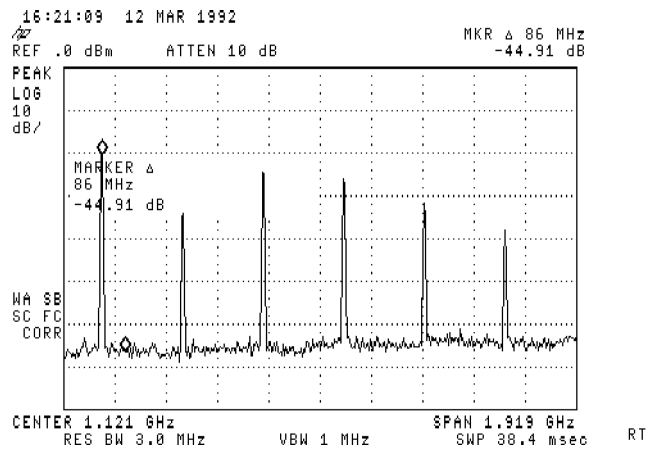

Figure 6-14. Using the Marker to Peak/Peak Function
- The **MARKER ->PK-PK** softkey can be used to find and display the frequency and amplitude difference between the highest- and lowest-amplitude signals. To use this automatic function, press **(MKR->)**, **More 1 of 2**, **MARKER ->PK-PK**. See Figure 6-14.